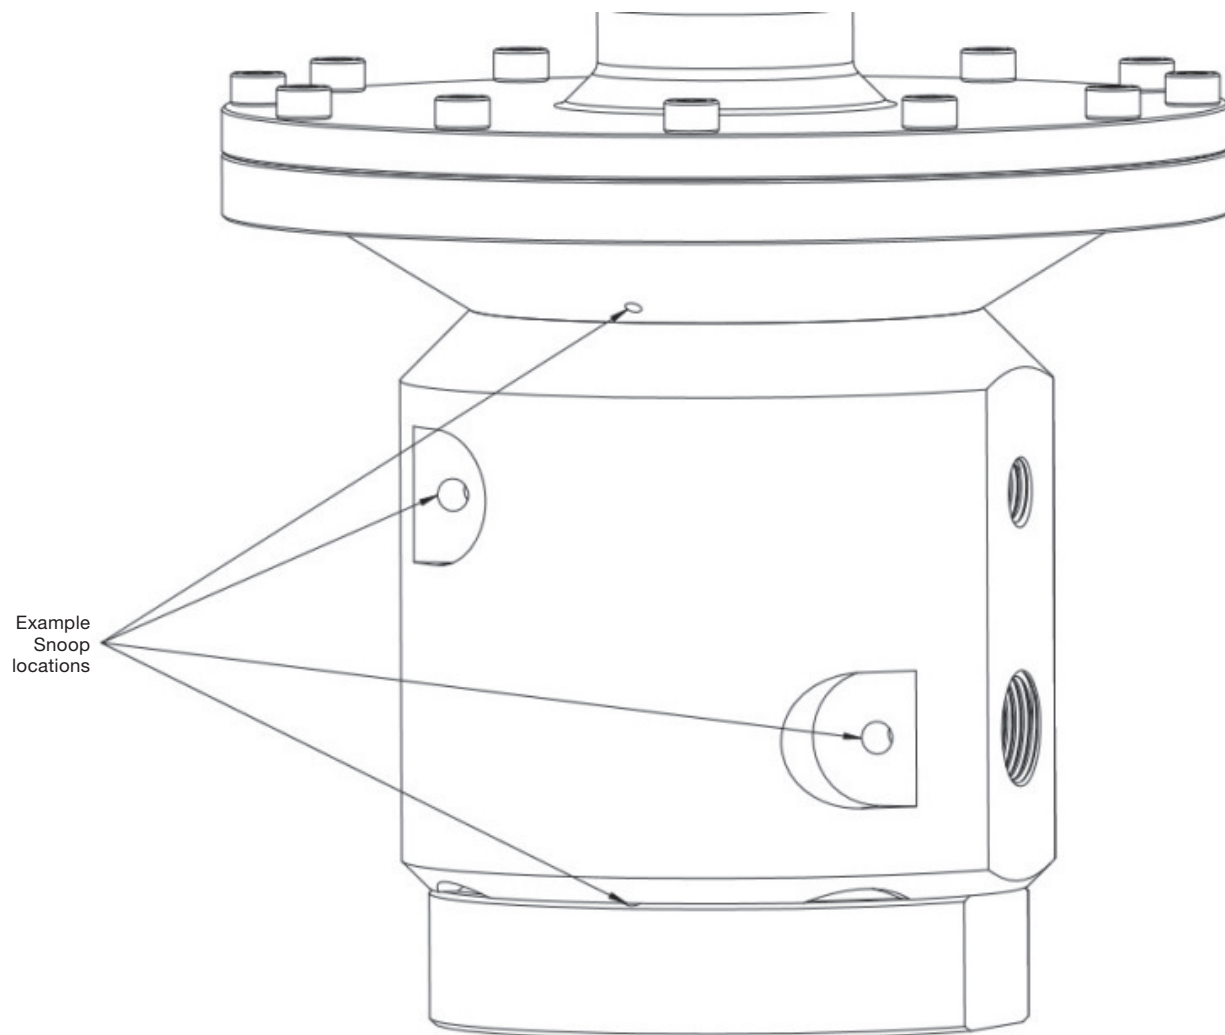

Figure 9
3. Using liquid leak detector, check for bubbles at the spring housing/dome weep hole, vent plate weep hole and body plug to body interface according to figure 9, page 21.